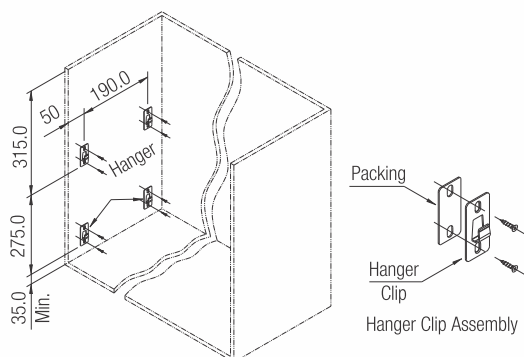

Fig. 2
2. Fix the hanger to the side board of the cabinet as shown in Fig. 2.
3. Sizes 275 & 315 (shown in Fig. 2) are for reference only, sizes may vary depending on the height of cabinet.